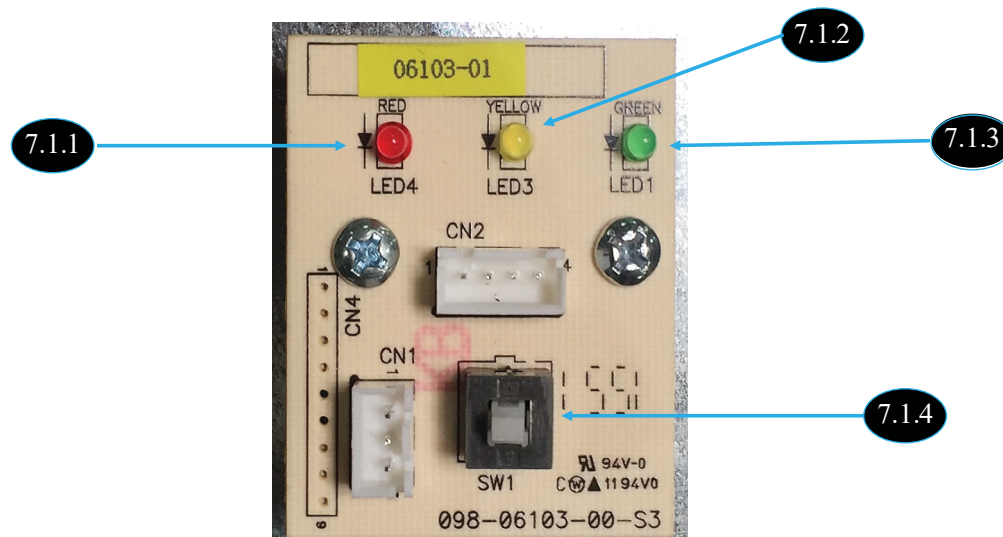

Figure 4
Displays: Refer to Figure 4 for descriptions of the Display Panel's button and indicators.
8.1.5.2. The Processor perform a series of checks (These checks will be indicated by a delay in the red LED extinguishing and the green LED illuminating (see Figure 4).